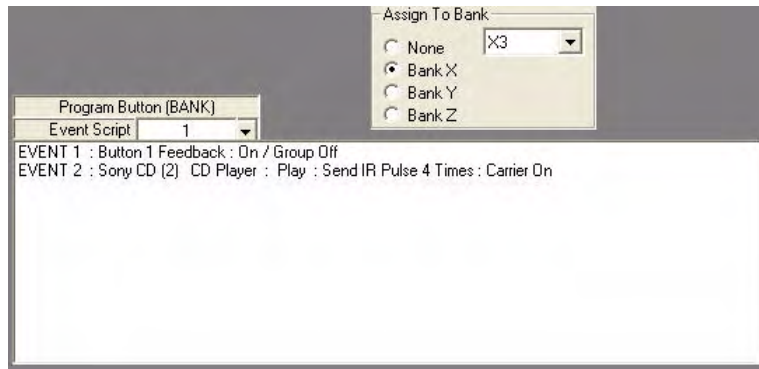

FIG. 65 Script for Bank X3 (CD Play)
5. Select **X3** from the *Assign To Bank* drop-down menu and write a script for a CD player (FIG. 65).